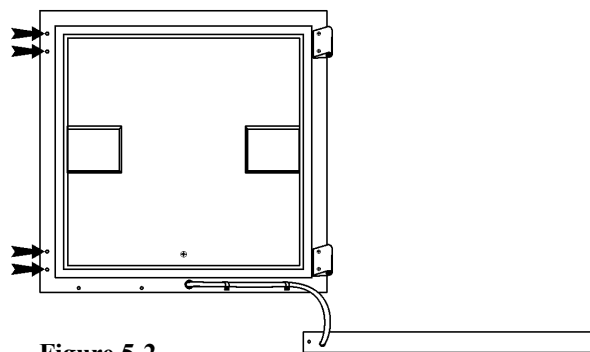

Figure 5-2
3. Refer to the illustration of the outer door in Figure 5-2. With a Phillips screwdriver, remove and save the four nylon screws from the door hinge mounting holes. The black arrows identify the screw locations.